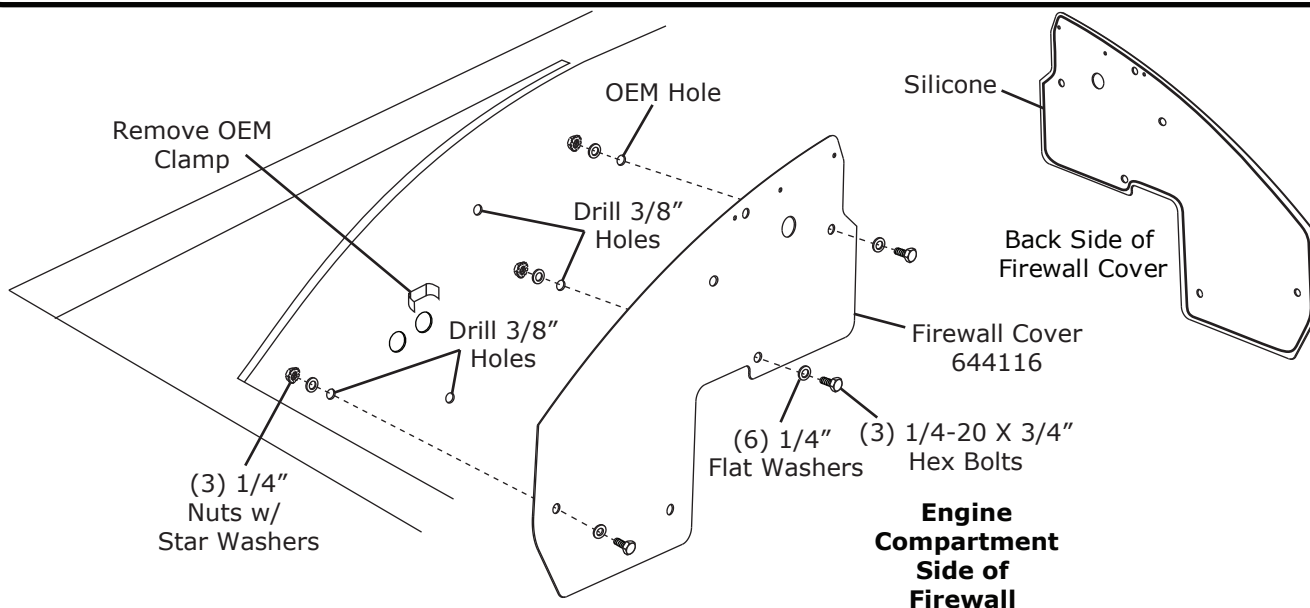

Figure 7
1. If applicable, remove OEM wire clamp from firewall (See Figure 7, below), and ensure firewall surface is smooth.
2. Using firewall cover as a template, mark and drill (4) 3/8" holes in firewall (See Figure 7, below).
3. Apply a 1/4" bead of silicone around the back side of the firewall cover as shown in Figure 7, below.
4. From the engine compartment, install firewall cover onto firewall, and secure to firewall using (3) 1/4-20 x 3/4" hex bolts, (6) 1/4" flat washers and (3) 1/4" nuts w/ star washers as shown in Figure 7, below.